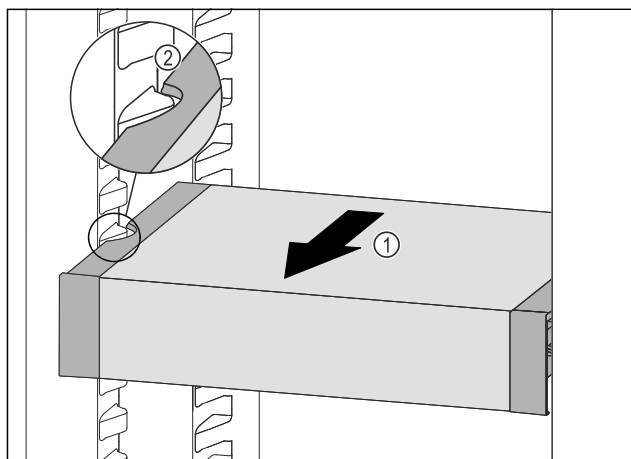

Fig. 107
- ▶ Pull VarioSafe forward *Fig. 107 (1)* until the recesses in the side of the VarioSafe are at the level of the support rib in the refrigerator compartment. *Fig. 107 (2)*